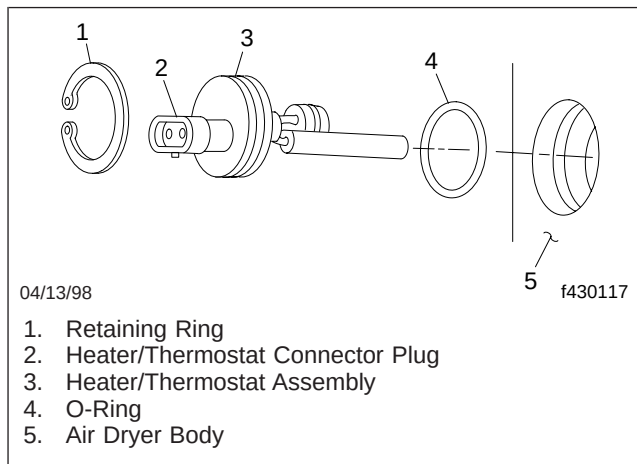

Fig. 1, Heater and Thermostat Assembly
2. Lift the lock tab on the vehicle wiring harness connector and disconnect it from the air dryer base. See Fig. 1.